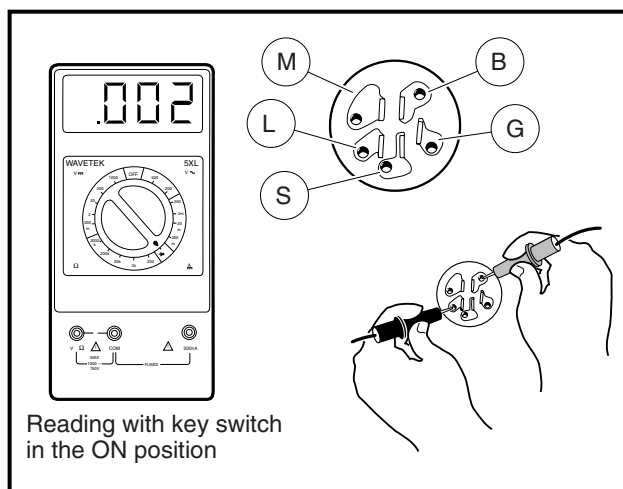
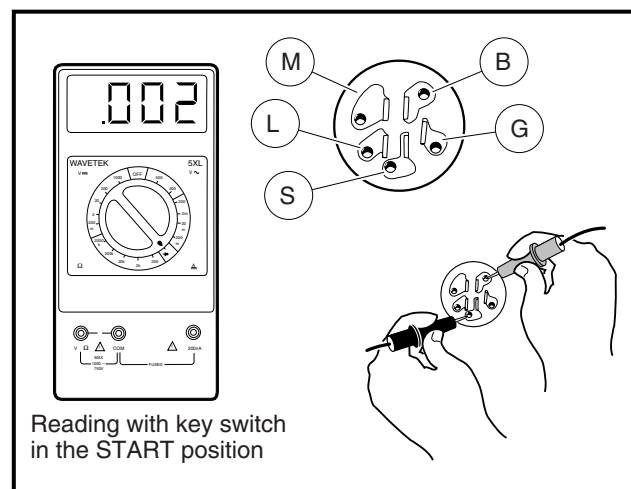

Figure 11-28 Key Switch Test – Accessory Terminal
Figure 11-29 Key Switch Test – Starter Circuit
5. Insert the key and turn the key to ON. Place the red (+) probe of the multimeter on the (B) terminal and the black (-) probe on the (L) terminal of the key switch. The reading should be continuity. If the reading is incorrect, replace the key switch (Figure 11-28, Page 11-25). See Key Switch Removal, Section 12, Page 12-14.
6. With the key still in the ON position, place the red (+) probe of the multimeter on the (B) terminal and the black (-) probe on the (S) terminal of the key switch. The reading should show no continuity. If the reading is incorrect, replace the key switch. See Key Switch Removal, Section 12, Page 12-14. If the reading is correct, leave the probes connected and proceed to the next step.
7. Insert the key and hold the key in the START position. The reading should be continuity. If the reading is incorrect, replace the key switch (Figure 11-29, Page 11-25). With the red (+) probe of the multimeter on the (B) terminal and the black (-) probe on the (L) terminal of the key switch, the reading should be continuity. If either reading is incorrect, replace the key switch. See Key Switch Removal, Section 12, Page 12-14.
5. Insert the key and turn the switch to the ON position. With the multimeter set to 200  $\Omega$  (ohms), place the red (+) probe of the multimeter on the (B) terminal and the black (–) probe on the (L) terminal of the key switch (**Figure 11-28, Page 11-25**). The reading should be continuity. If the reading is incorrect, replace the key switch. See **Key Switch Removal, Section 12, Page 12-14**.